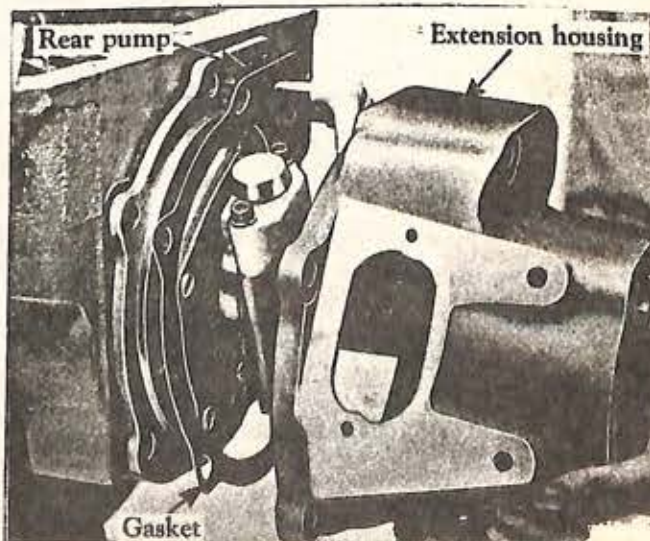

Fig. 42
6. Remove the five transmission to extension housing capscrews. These capscrews also attach the rear pump to the case. Hold the rear pump in position and remove the extension housing and gasket (Fig. 42).